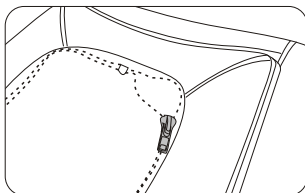

Figure 11
- Zip the backrest kneading cloth up. (figure 11)